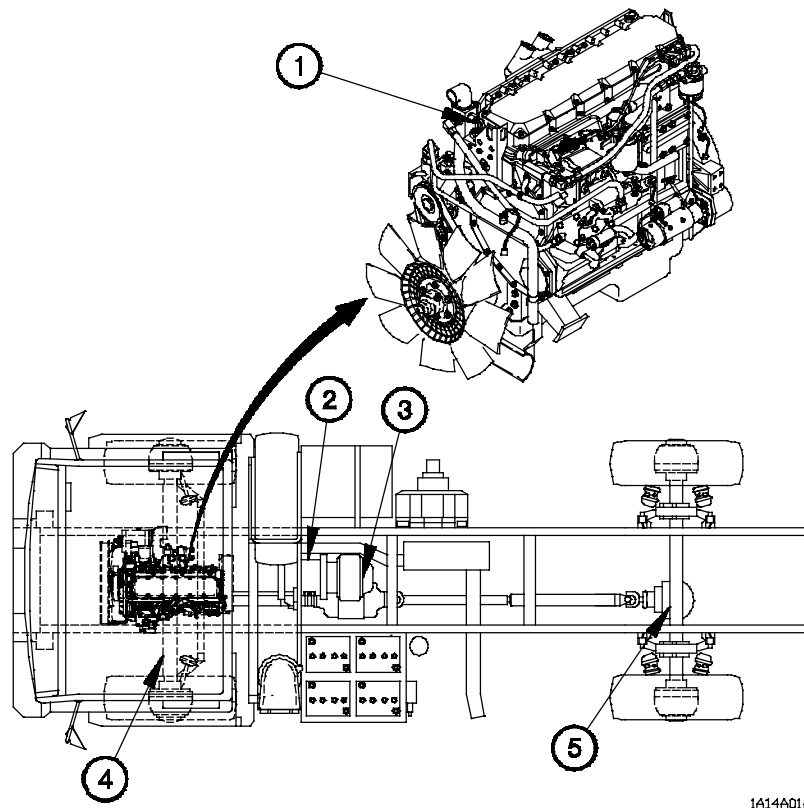

Figure 1-9. Powertrain
The Powertrain for the vehicle is provided by a diesel engine (1, Figure 1-9) which is coupled directly to an automatic transmission (2). Power from the automatic transmission is supplied to the transfer case (3) and on to the front steering axle (4) and rear drive axle (5) through a series of drive shafts and universal joints. The capability of the powertrain is enhanced by the use of an seven-speed transmission.